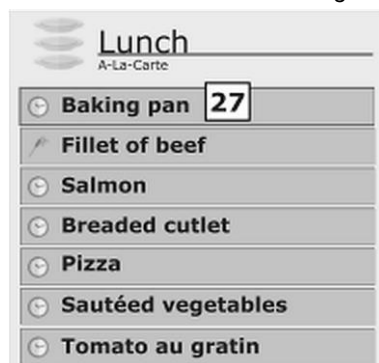

Fig. 35
- Press the empty level and select sub-program dubbed 'Tray' (27, Fig. 35).
1. To change Rack Control program after opening it, press 28 key (Fig. 35) in the left column of the displayed settings.